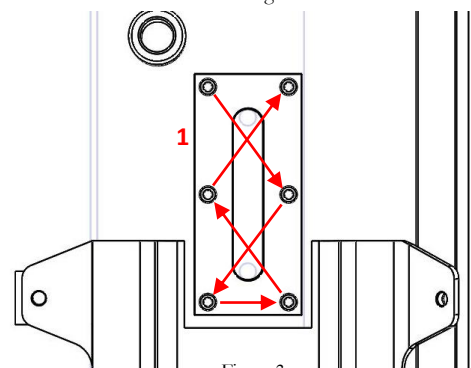

Figure 3
3. Tighten the screws in a diagonal, alternating pattern. Shown in figure 3. The screws should be tightened to no more than 18 in-lbs.